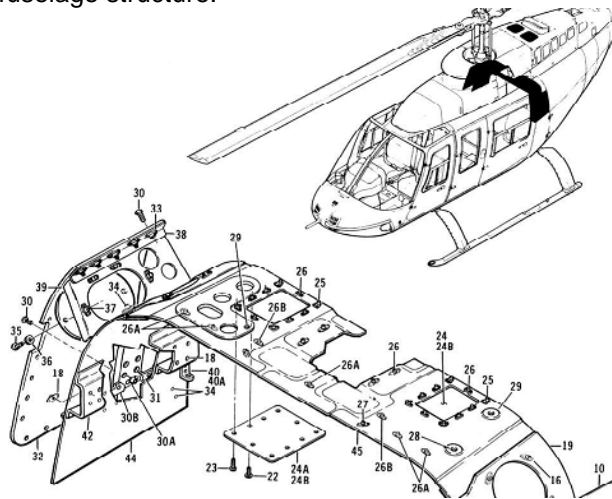

Figure 1.
During parts of the progressive inspection, opening of the door assemblies identified in figure 1 (item 24, 24A & 24B) is required, to inspect the most aft hardware of the pylon support assemblies for the transmission and the forward engine mount fuselage structure.